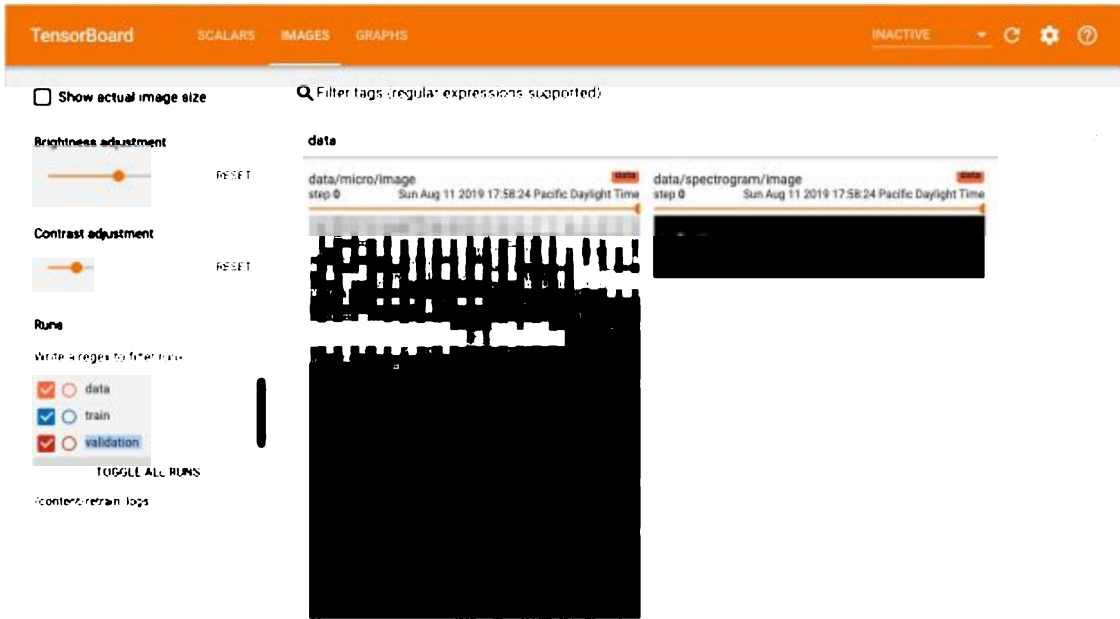

Figure 8-17. The IMAGES tab of TensorBoard
**Figure 8-17** illustrates what is actually being fed into the neural network. This is a 2D array with a single channel, so we can visualize it as a monochrome image. We're working with 16 KHz audio sample data, so how do we get to this representation from that source? The process is an example of what's known as "feature generation" in machine learning, and the goal is to turn an input format that's more difficult to work with (in this case 16,000 numerical values representing a second of audio) into something that's easier for a machine learning model to make sense of. You might not have encountered this if you've previously studied machine vision use cases for deep learning, because it happens that images are usually comparatively easy for a network to take as inputs without much preprocessing; but in a lot of other domains, like audio and natural language processing, it's still common to transform the input before feeding it into a model.